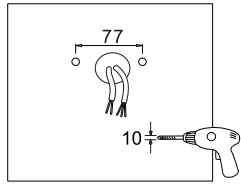

Figure 21
**4. YOKE MOUNTING (YM)**
Step 1: Drill holes on the wall as shown. (Figure 21)